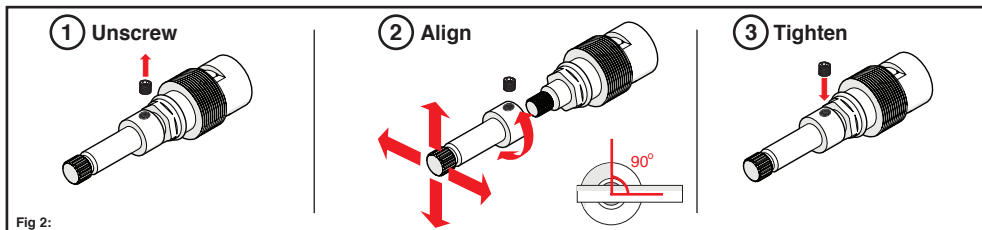

Fig 2:
**\*Fig 2: To align the handle, loosen grub screw/s (2) from the extension (1) using 2mm allen key, then rotate the position of the extension (1) and ceramic disc cartridge (7) until the desired handle position is achieved.**
5. Once aligned ensure the extension (1) is pushed firmly on to the ceramic disc (7) and tighten grub screw/s (2) firmly using the 2 mm allen key. Take care whilst doing this.
6. Place the fibre washer (4) over the ceramic disc assembly (7A) and onto the face or the (A) wall breach or (B) basin body.
7. Tighten the locking nut (3) over the ceramic disc assembly (7A) and tighten firmly using a 25mm deep tube socket. \*For some product ranges such as Tudor hob, please use 24mm socket